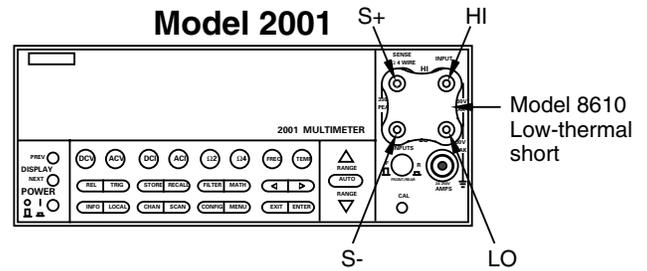

Figure 2-1
2. Connect the Model 8610 low-thermal short to the instrument INPUT and SENSE terminals, as shown in Figure 2-1. Wait at least three minutes before proceeding to allow for thermal equilibrium.